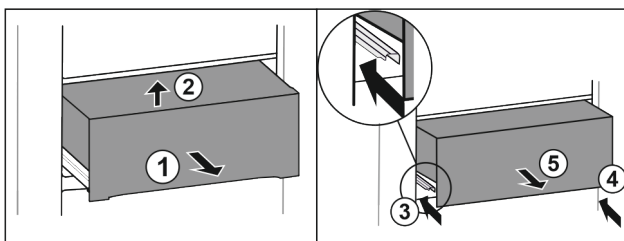

Fig. 28
- ▶ Pull out the drawer half-way Fig. 28 (1).
- ▶ Lift at the front Fig. 28 (2).
- ▶ Insert left rail Fig. 28 (3).
- ▶ Insert right rail Fig. 28 (4).
- ▶ Take out the drawer to the front Fig. 28 (5).